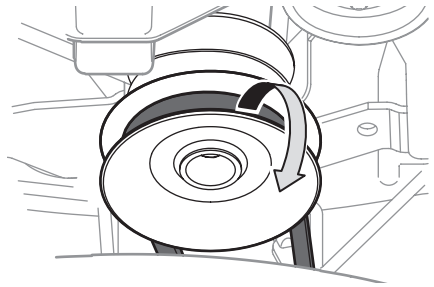

Figure 31
4. Remove the belt from around the riding mower's PTO pulley. See Figure 31.
3. Remove the deck belt from around the riding mower's PTO drive pulley as shown in Figure 31 on page 25. Simply roll one side of the belt off of the pulley and then work it off the pulley by continuing around the pulley until the belt is off of the pulley.
9. Feed the deck belt through the belt keeper rod and work it around and onto the PTO drive pulley as shown in Figure 31 on page 25.